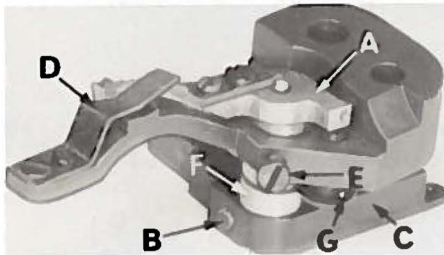

Fig. 28
1. There should be no shake or bind in lower knife pivot carrier (A, Fig. 28). This adjustment can be made by loosening screw (B) on the pivot release lever (C) and taking up the excessive end play or relieving the bind as the case may be.